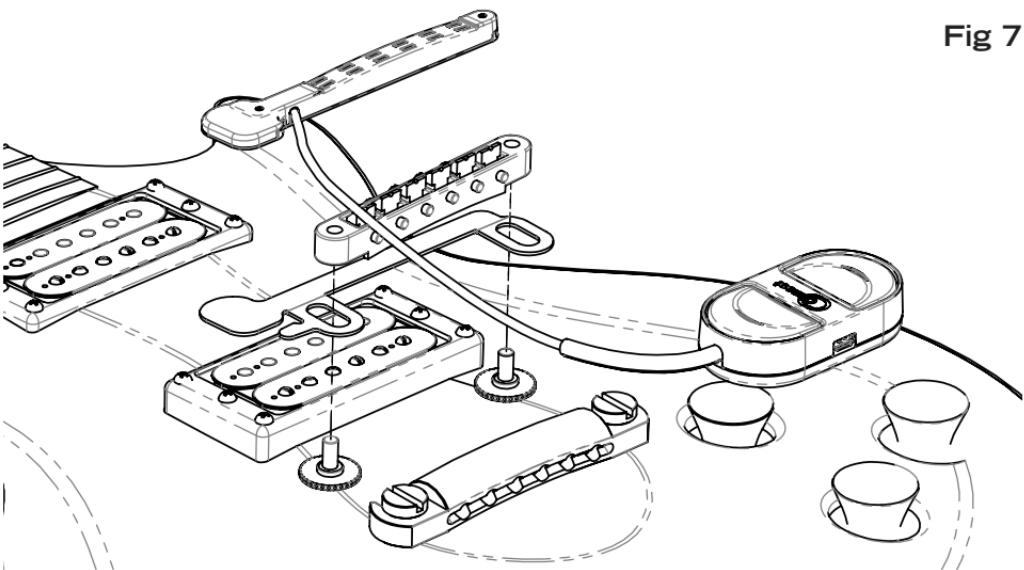

Fig 7
4. Place the bridge assembly over the bracket and posts (Fig 7).